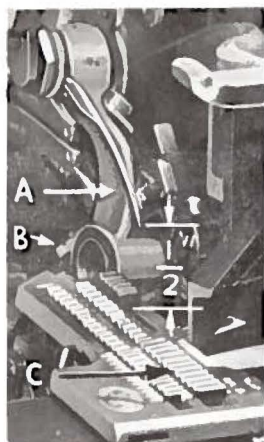

Fig. 3
With throat plate in position, needle should center in the front end of needle slot. When needle is at high position, needle point should be set  $\frac{1}{2}$  inch above throat plate (Fig. 3). Move needle driving arm (A, Fig. 3) by loosening clamp screw (B). Remove throat plate.